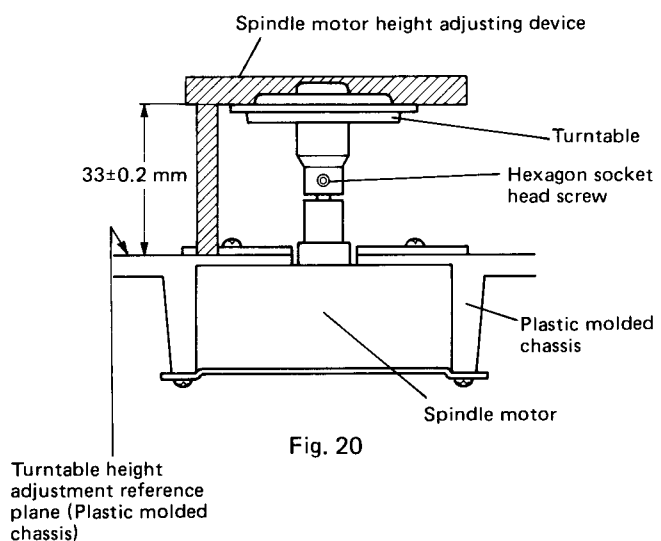

Fig. 20
4. Loosen the hexagon socket head screw, and lower the turntable until the leg section of the height adjustment device comes into contact with the reference plane. Then, retighten the hexagon socket head screw securely. (Fig. 20)